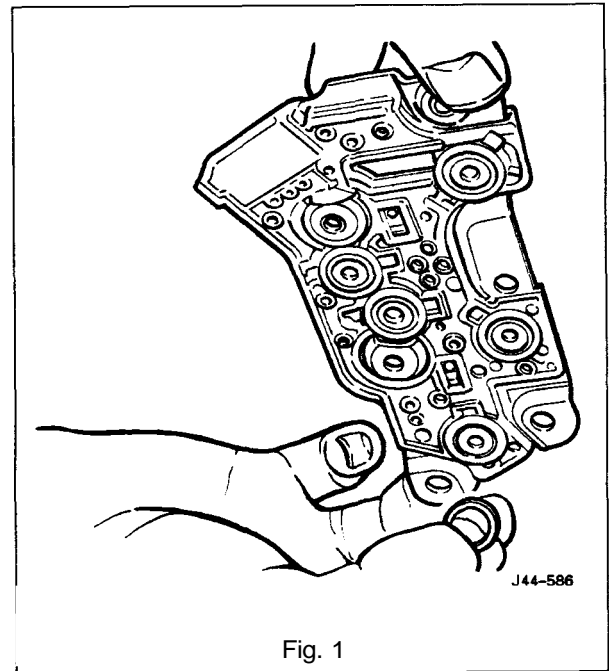

Fig. 1
- Retrieve the manifold to valve body 'O' ring seals (Fig. 1) and discard.